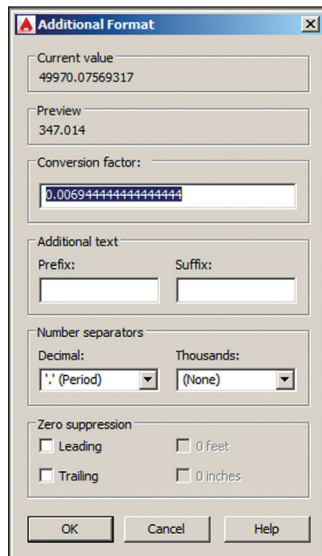

FIGURE 15.24 Converting units in the Additional Format dialog box
- ▶ For Imperial units, remove the SQ. FT. text from the Suffix text box and type 1/144 in the Conversion Factor text box to convert from square inches to square feet. Click OK, and the fraction is converted to decimal form (see Figure 15.24). Click OK again.